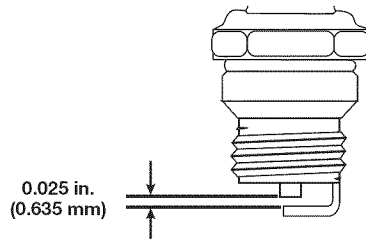

Fig. 18
3. Replace a cracked, fouled or dirty spark plug. Set the air gap at **0.025 in. (0.635 mm)** using a feeler gauge (Fig. 18).